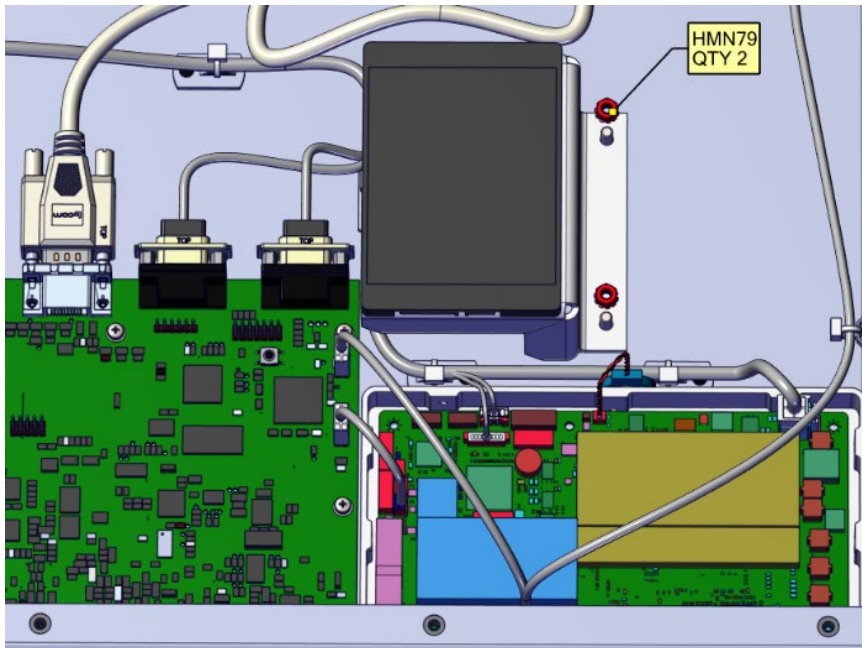

Figure3: SSD Mounting Bracket Removal
- (g) Remove and retain the two (2) M4 lock nuts (Nautel part # HMN79) that secure the SSD Mounting Bracket to the chassis (see Figure 3). Remove the SSD Mounting Bracket and dismount the SSD from the SSD Mounting Bracket using a Phillips screwdriver. Retain Phillips hardware.